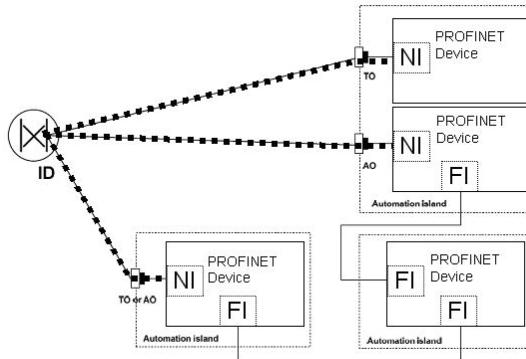

Figure 6: PROFINET CONFORMANCE CLASS A with reduced automation island
Figure 4: Connection of generic cabling to the fieldbus network via a converter; corresponds to IEC 61918 - Figure 6 - Automation island network external connections
- A PROFINET-compliant network can be configured on the basis of the ISO/IEC 24702 structure (Figure 6)
The connections shown in the figure 6 are all possible connections. They should be selected in a way that no physical loop arises.